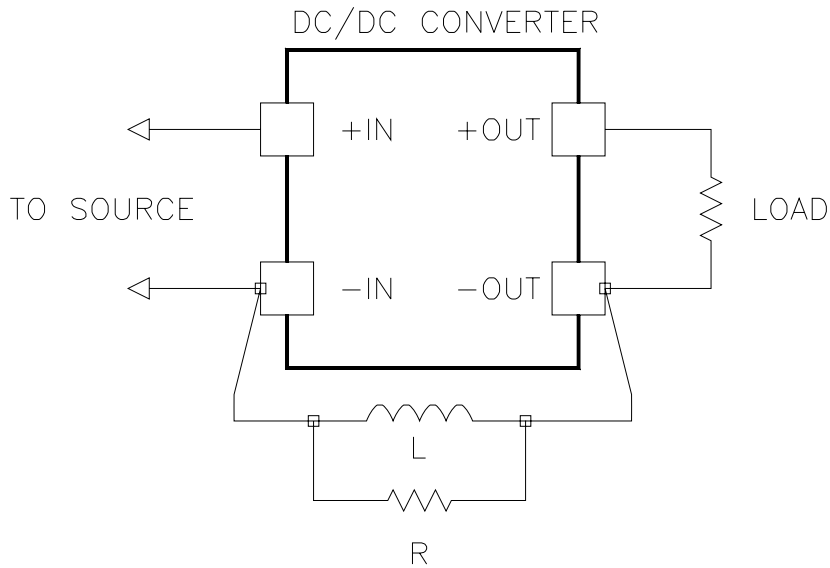

Figure 4b.
2. Use a DC connection only and block the AC component of the common mode noise. Strangely enough, this can be done by using a Low Q inductor between the grounds. The key is that this inductor must have sufficient impedance at the switching frequency to be at least 5 to 10 times larger in impedance than the measured stray circuit capacitance's impedance. To keep the Q low (necessary to prevent resonant peaking of the impedance), use a 100 ohm to 10K ohm shunt resistor across the inductor. This method gives a solid DC ground but blocks the common mode current from flowing in the connection (see Figure 4b).